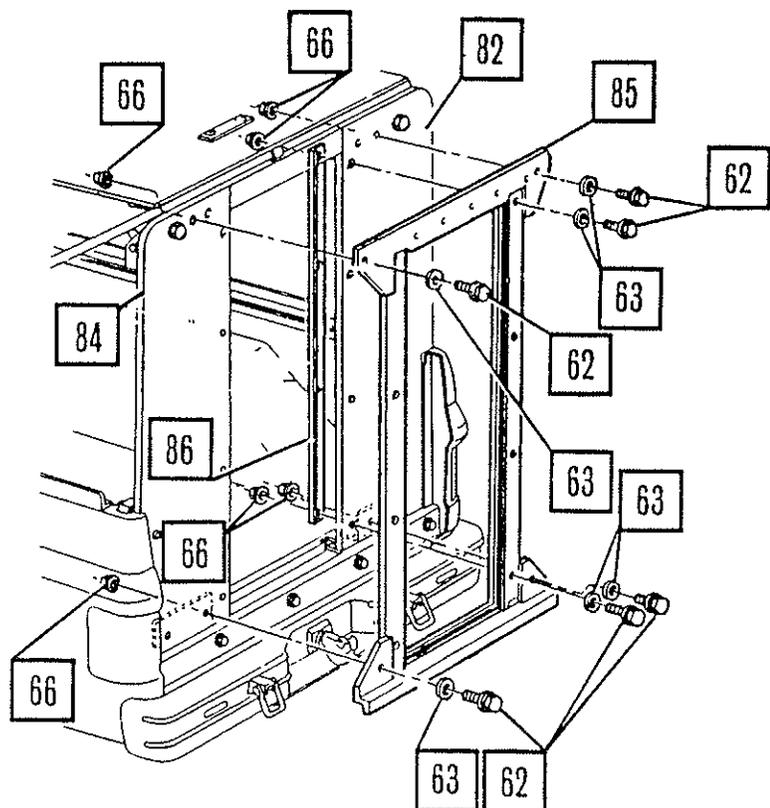

Figure 21.
71. Place rear door panel frame assembly onto opening and center right to left, and install nuts, bolts and washers in top corners of frame (Figure 21.).
75. Using door frame as a template, drill  $13/32$  inch side and top holes along opening (Figure 21.).
76. Install rear panel inner side molding with nuts, washers and bolts at top and bottom of opening on the right-hand side (Figure 21.).